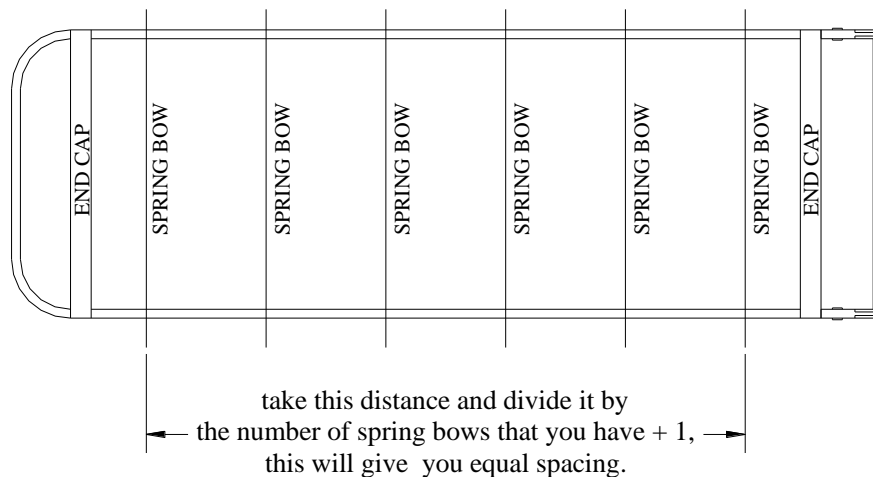

Figure 4.
5. Measure from the center of the front spring bow to the center of the back spring bow. Take that measurement, in inches, and divide it by the number of spring bows you have left + 1. For example, if you have 4 bows left, divide the length by 5. That will give you 5 equally spaced openings. Refer to Figure 4 below.